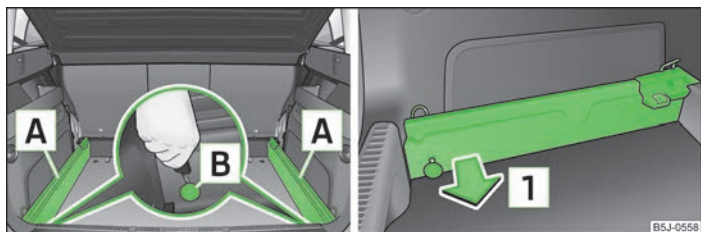

Fig. 51 Boot: Slacken check points/remove carrier rails
- Slacken the check points **B** » Fig. 51 on the carrier rails using the vehicle key or a flat screwdriver.
- Press the check point on each carrier rail **B** » Fig. 51 up to the stop.